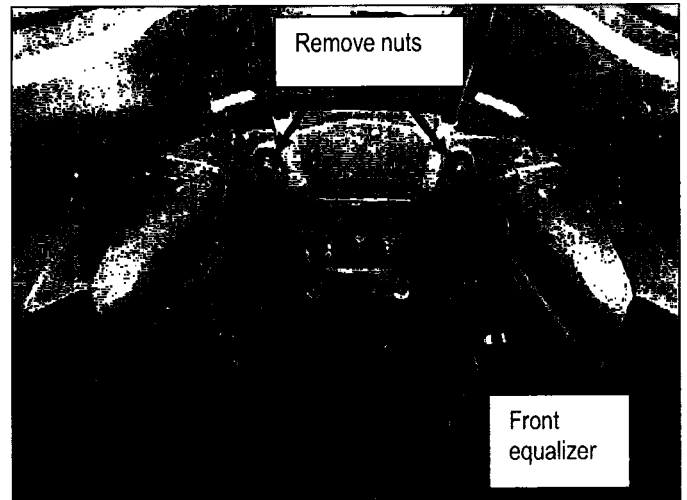

Figure 22
- c. Remove the nuts that hold the parking brake cables to the vehicle body (see Figure 22).
- d. Disconnect the cables from the front equalizer (see Figure 22).